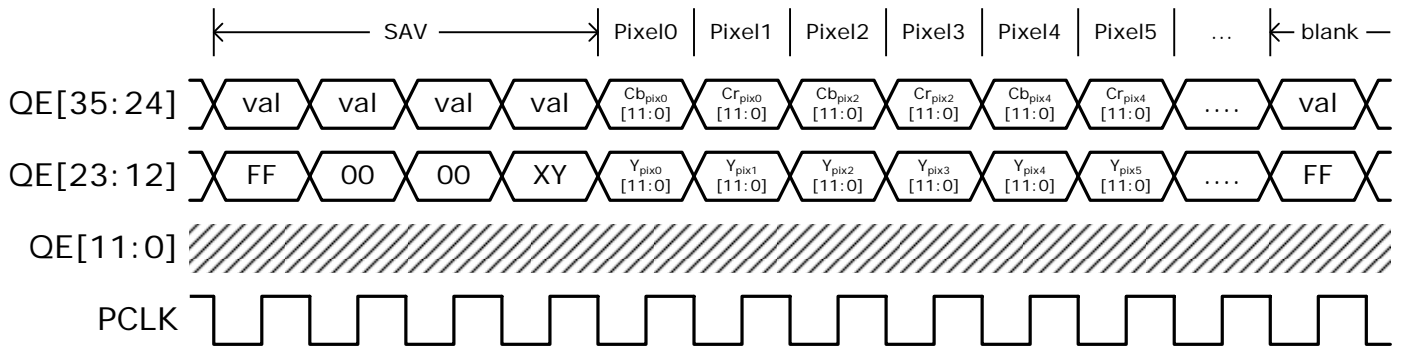
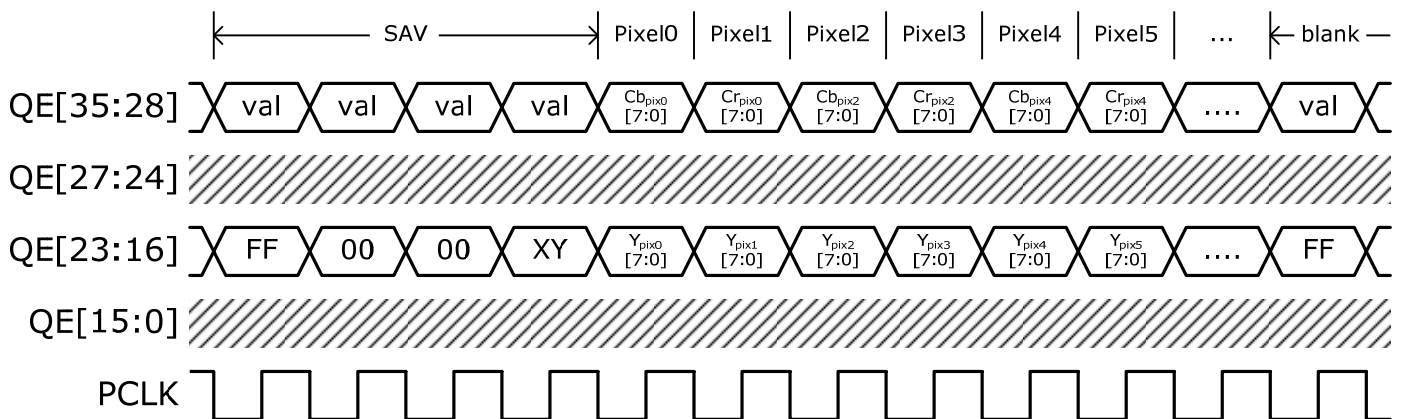

Figure 8. 24-bit YCbCr 4:2:2 with embedded syncs
Figure 9. 16-bit YCbCr 4:2:2 with embedded syncs
i.e. embedded. Bus width could be 16-bit, 20-bit or 24-bit. Figure 8 gives a timing example of 24-bit YCbCr 4:2:2 and Figure 9 that of 16-bit. Note that while "embedded syncs" implies that neither DE nor H/VSYNC are required, the IT6605 optionally output these signals via proper register setting to ease the design for some backend processors.